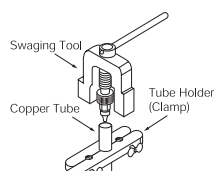

Figure 14
- Expand the copper tube by using a swaging tool set as in Figure 14.